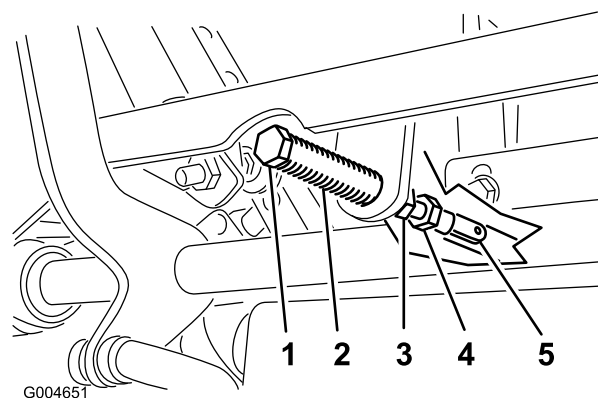

Figure 82
5. Pull the lever back until the clevis pin (on an arm above the pivot shaft) contacts the end of the slot (just beginning to put pressure on the spring) (Figure 82).
7. If adjustment is needed, loosen the nut and jam nut against the yoke (Figure 82).
8. Applying slight rearward pressure on the motion control lever, turn the head of the adjustment bolt in the appropriate direction until the control lever is centered in the neutral lock position (Figure 82).
9. Tighten the nut and jam nut (Figure 82).
10. Tighten the jam nuts at the ball joints (Figure 82).